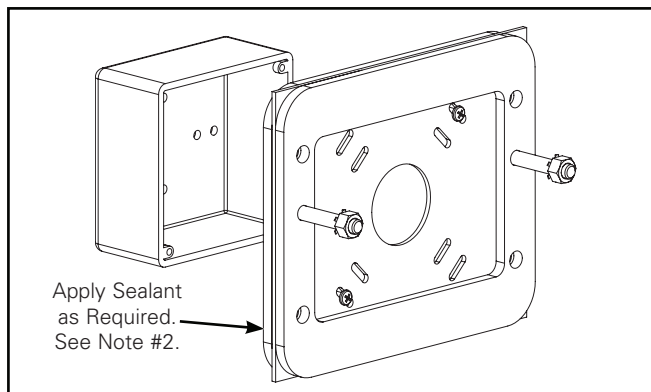

Figure 5.
2. Using the two screws supplied with the junction box, install the mounting plate as shown. The 5/16-18 studs should be facing away from the wall and above the center of the bracket (Figure 5.). For rough or uneven surfaces, sealant must be applied (by others) between the rear mounting plate gasket and the mounting surface (wall).